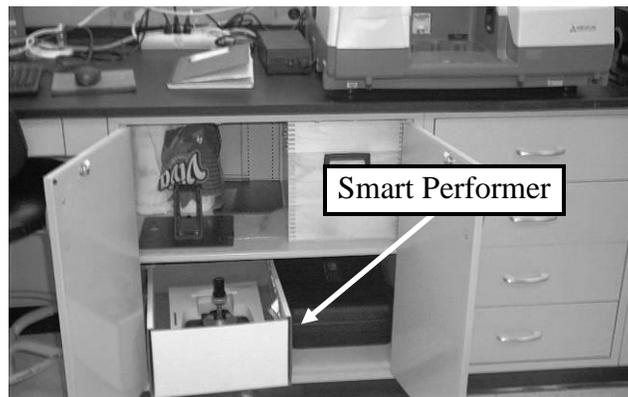

Figure 6: The Smart Performer is located in a white cardboard box in the cabinet below the FTIR.
- 3.a. As seen in Figure 6, retrieve the Smart Performer from the cabinet below the instrument. Place it on the bench opposite the FTIR.